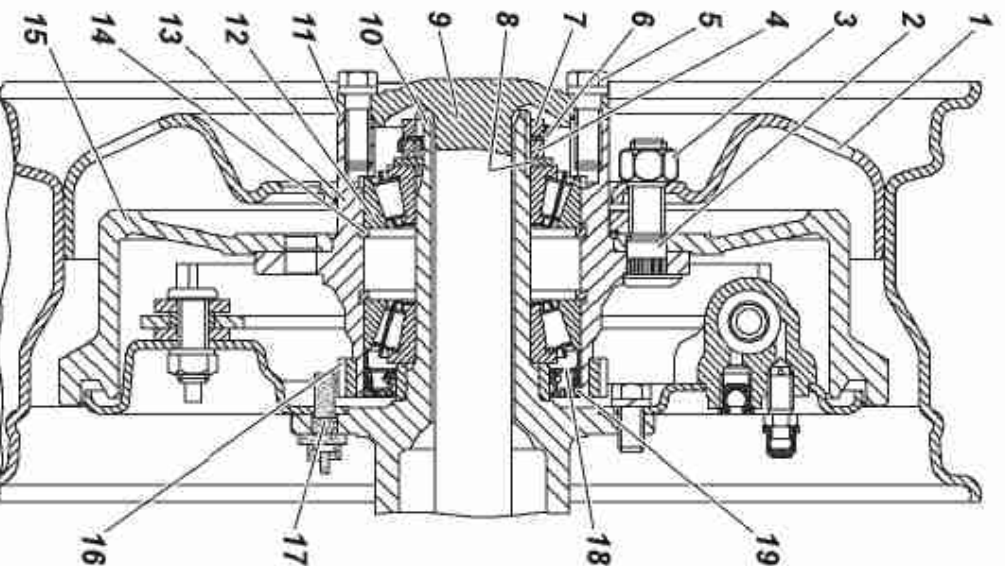

Fig. 9.25. Rear Wheel Hub:
2. Remove axle shaft 9 (see Fig. 9.25) of the rear axle or the hub flange of the front axle.